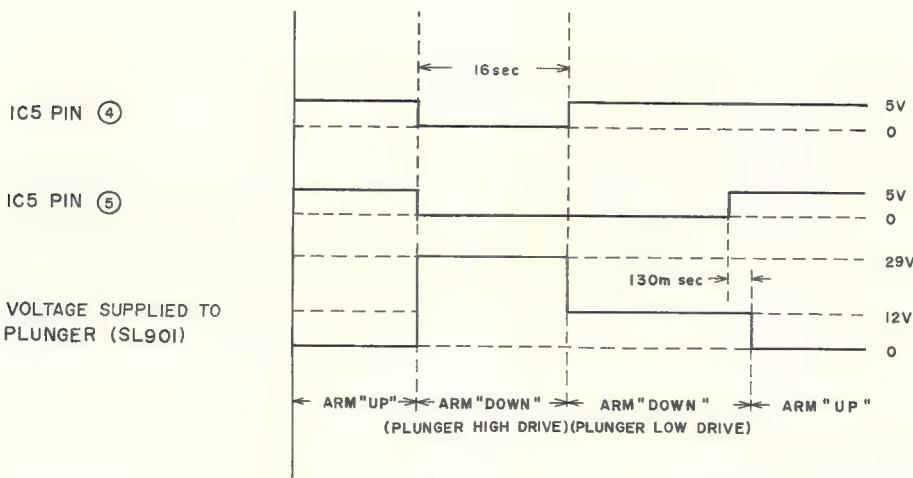

Fig. 5-7 Timing Chart
- 1) The Plunger high drive output (IC5 pin ④) is "H" when the Tone Arm is raised and also while the Tone Arm is up, and "L" for 1.6 seconds while the Tone Arm descends and "H" after that 1.6 seconds as shown in Fig. 5-7.
- 2) Consequently, in the cases when the START button is depressed or the DOWN button is depressed in either AUTO or MANUAL modes, IC5 pin ④ be-